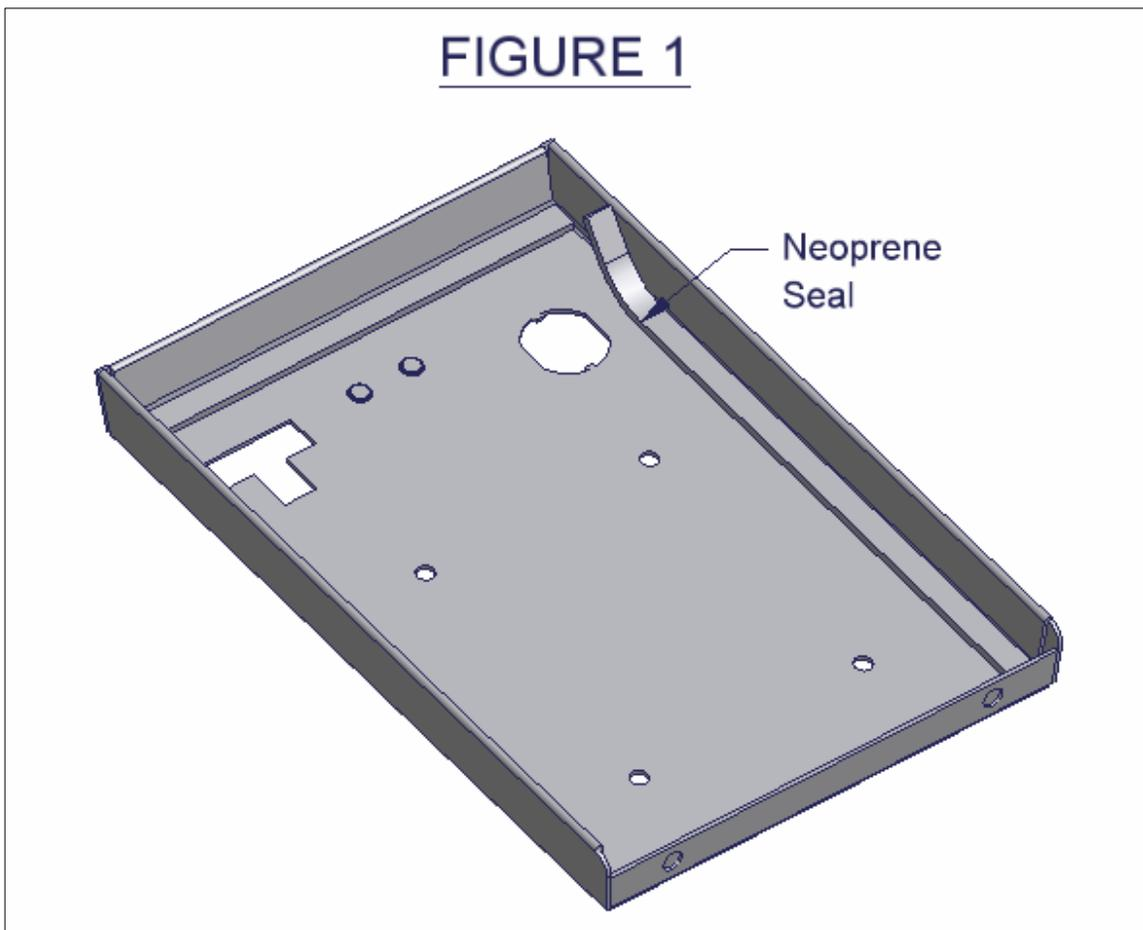

FIGURE 2
5. Remove the (4) self-tapping screws from the factory console. Two are located inside the rear drink holder under the rubber liner, one is located inside the front drink holder under the rubber insert (save this insert you will reuse it), and one is under the gear shift boot on vehicles with a manual transmission or it is under the shifter plate on vehicles with an automatic transmission (shift boot or plate can be removed by gently pulling the plastic base up out of its mounting hole). Save these screws because you may reuse some of them.
7. Remove the (5) screws holding the speaker box to the factory console. Two are located inside the console, and three are located on the side.
8. Remove the (2) star washers holding the speaker box to the factory console.
10. Attach the new rear drink holder to the Tuffy console using (2) 10-32 x ½ screws, (2) #10 washers, and (2) 10-32 locknuts.
11. Mount the new mounting bracket to the speaker box. To do this remove the screws holding the original rear bracket to the speaker box, place the new mounting bracket between the speaker box and the original rear bracket and fasten with the original hardware. (Be sure to reuse the original rear bracket in conjunction with the new mounting bracket) (See Figure 2)
12. Place the speaker box with the mounting bracket in the vehicle and line it up with the original mounting holes. Using (2) ¼ X ¾" self-tapping screws fasten down the rear brackets to the original mounting holes. (See Figure 2)
13. Check the front original mounting hole to make sure it is still lined up with the speaker box then mark and drill out the (2) new rear mounting holes. (See Figure 2) **Be sure to inspect under the vehicle to ensure nothing was damaged by the drill bit.**
14. Fasten the rear mounting bracket to the floor using (2) 5/16 x 1 ¼ Bolts, (4) 5/16 Washers, and (2) 5/16 Locknuts. (See Figure 2)